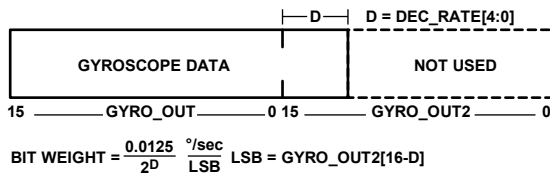
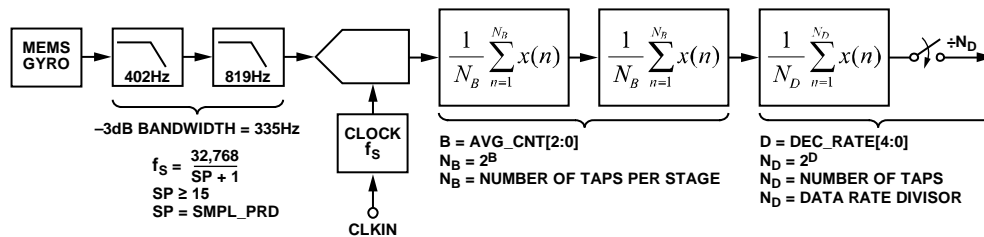

Figure 14. Gyroscope Output Format, DEC\_RATE[4:0] > 0
Figure 18. Sampling and Frequency Response Block Diagram
The GYRO\_OUT2 register (see Table 11) captures the bit growth associated with the decimation filter shown in Figure 18, using a MSB-justified format. The bit growth starts with the MSB (GYRO\_OUT2[15]), is equal to the decimation rate setting in DEC\_RATE[4:0] (see Table 18), and grows in the LSB direction as the decimation rate increases. See Figure 14 for more details.
Figure 18 provides a block diagram for the sampling and digital filter stages inside the ADIS16135. Table 15 provides a summary of registers for sample rate and filter control.
[15:0]	Clock setting bits; sets $f_s$ in Figure 18
The AVG\_CNT register (see Table 17) provides user controls for the low-pass filter. This filter contains two cascaded averaging filters that provide a Bartlett window FIR filter response (see Figure 18). For example, set AVG\_CNT[7:0] = 0x04 (DIN = 0xA004) to set each stage to 16 taps. When used with the default sample rate of 1024 SPS, this establishes a -3dB bandwidth of approximately 20 Hz for this filter.
[2:0]	Binary; B variable in Figure 18; maximum = 110 (6)
The DEC\_RATE register (see Table 18) provides user control for the final filter stage (see Figure 18), which averages and decimates the output data. For systems that value lower sample rates, this filter stage provides an opportunity to lower the sample rate while maintaining optimal bias stability performance. The -3 dB bandwidth of this filter stage is approximately one half the output data rate. For example, set DEC\_RATE[7:0] = 0x04 (DIN = 0xA204) to reduce the sample rate by a factor of 16. When the factory default 1024 SPS sample rate is used, this decimation setting reduces the output data rate to 64 SPS and the sensor bandwidth to approximately 31 Hz.
[4:0]	Binary; D variable in Figure 18; maximum setting = 1000 (binary) = 16 (decimal)